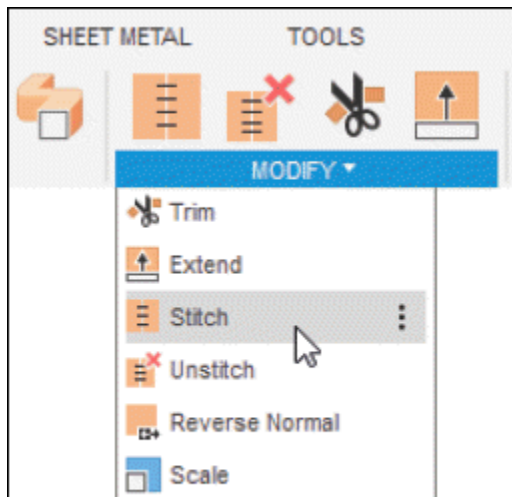
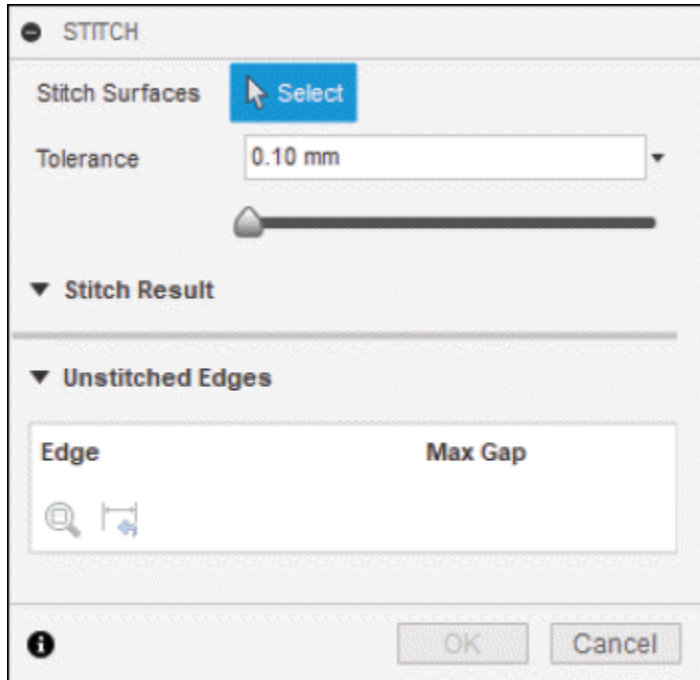

Figure-26. Stitch tool
Figure-27. STITCH dialog box
- Click on the **Stitch** tool of **MODIFY** drop-down from **Toolbar**; refer to Figure-26. The **STITCH** dialog box will be displayed; refer to Figure-27.